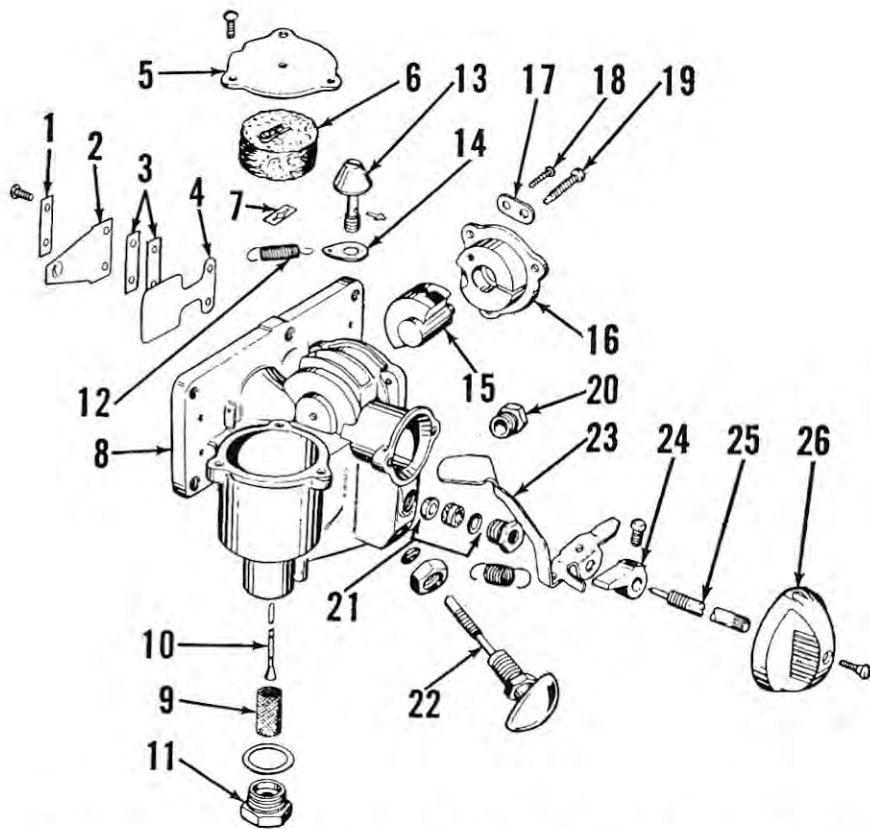

Fig. G15—Exploded view of carburetor used on models 5S11 through 5S14. 5D11 is similar except that shut-off needle (22) is not used.
Models 5S11 through 5S14B; 5D11: These models are equipped with an integral float type carburetor similar to that shown in Fig. G15. The float valve seat is machined into bottom of carburetor body (8). If seat is damaged, carburetor body must be renewed. Float valve extends through float
(6) and bowl cover (5), and is manually depressed by primer lever (23) to supply the starting fuel.
**REED VALVES.** On early motors with integral float type carburetor, the reed valve unit (1 through 4—Fig. G15) is attached directly to the carburetor body. On later units with hinged float carburetor, the reed valve unit (1 & 2—Fig. G18) attaches to reed plate (4). On all models the reed valve should be checked whenever the carburetor is removed for service. The reed petal (or petals) should seat very lightly against reed plate or carburetor body throughout entire length of reed, with least possible tension. Renew reed if petals are broken, cracked, warped, rusted or bent. Do not attempt to bend or straighten reed petals. Seating surface of carburetor or reed plate must be smooth and flat.